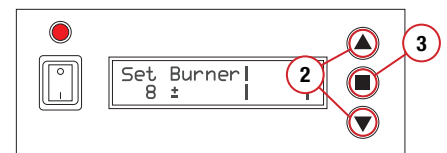

Fig.5.
2. Turn the unit on, adjust the burner to the lowest setting '1'. (Fig. 5)
3. Exit the warm up by pressing the middle button. (Fig. 5)